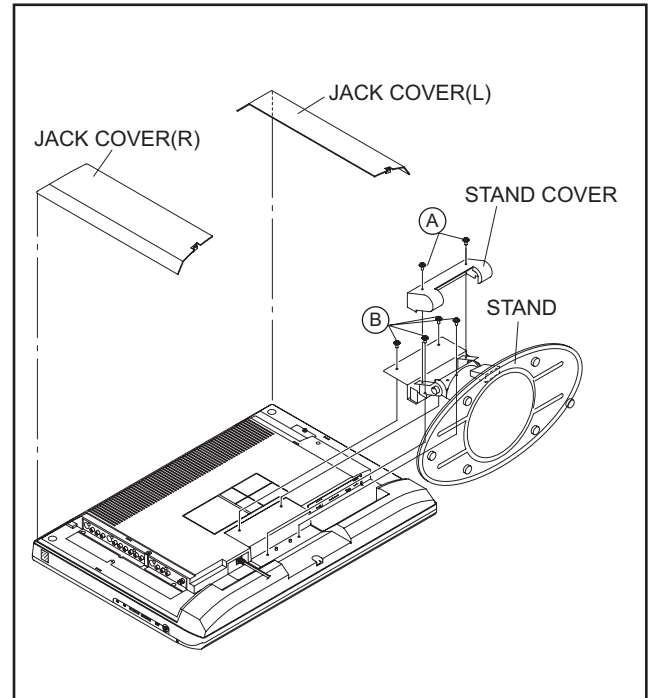
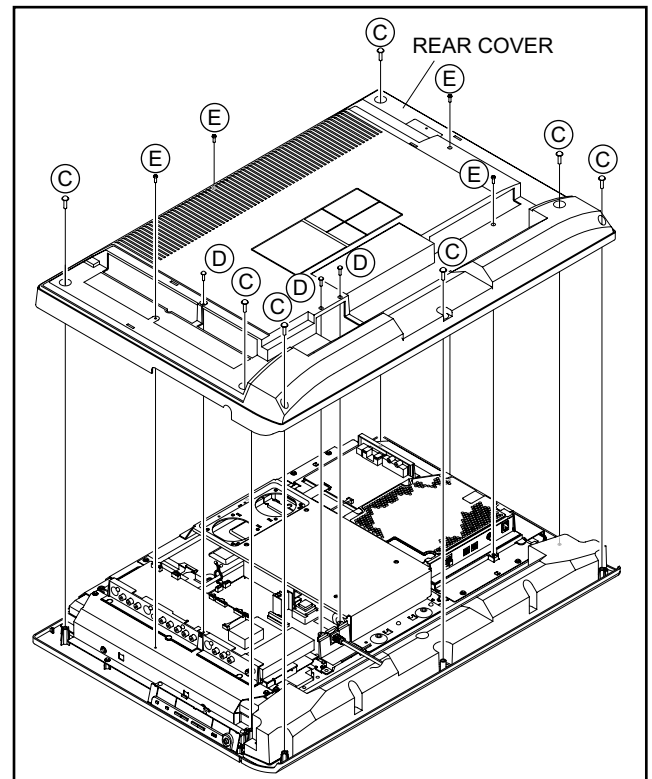

Fig.3-1-1
Fig.3-1-2
3.1.1 REMOVING THE STAND ASS'Y (Fig.3-1-1)
3.1.2 REMOVING THE REAR COVER (Fig.3-1-1, Fig.3-1-2)